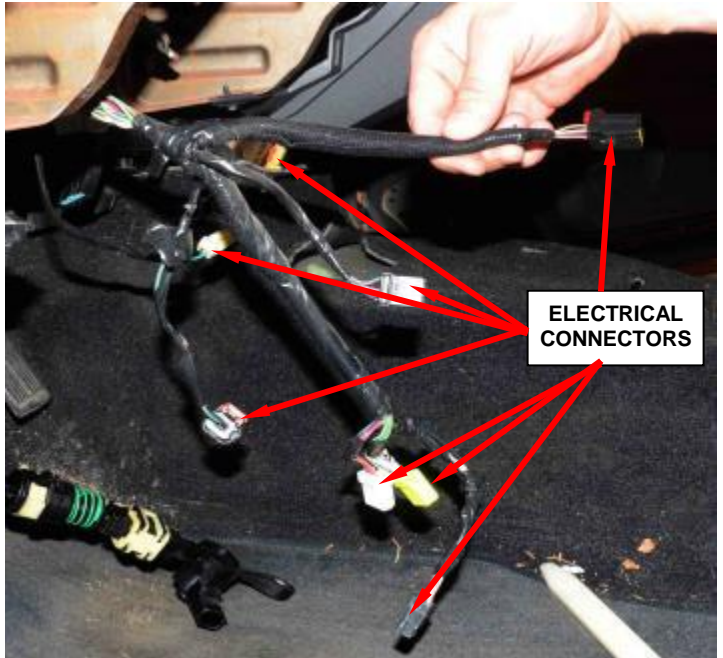

Figure 89 – Column Electrical Connectors
12. Disconnect the wiring harness electrical connectors from the column (Figure 89).